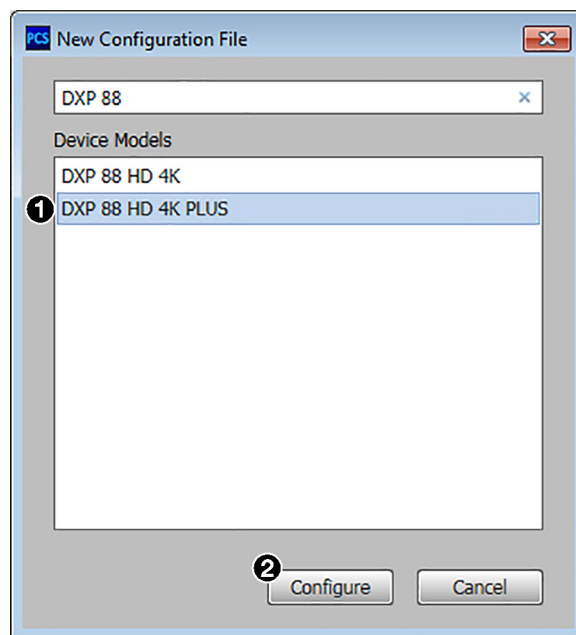

Figure 40. New Configuration File Dialog Box (DXP 88 HD 4K PLUS Selected)
2. Select the desired device model from the **Device Models** list (see figure 40, **1**).